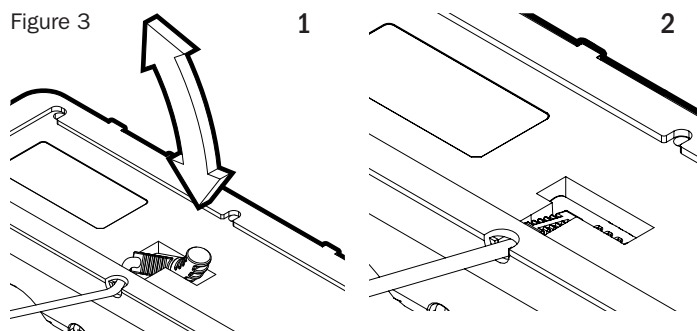

Figure 4
The XS Truckmount Charger screws directly into the flat panel using the five (5) #10 Hex Head Drilling Screws included in your installation kit. Installation is now complete (Figure 4).